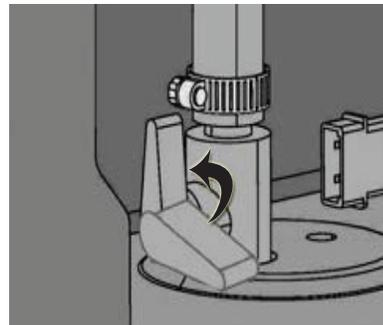

Figure 36.
2. Rotate (counter clockwise) until the lever is parallel to the drain tube (See Figure 36.).